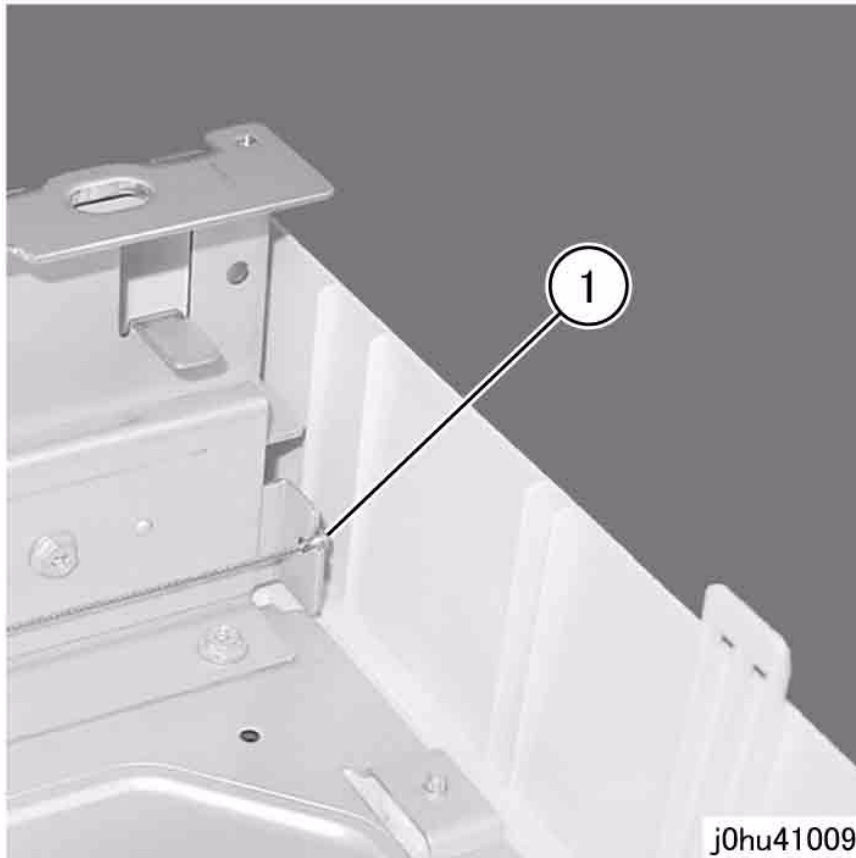

Figure 9 Disconnect Silver Carriage Cable
11. While maintaining tension on the Carriage Cable (silver) at the rear right side, disconnect it (Figure 9).